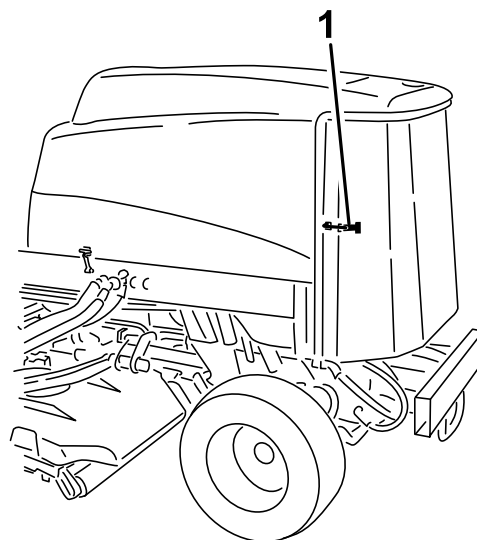

Figure 78
3. Unlatch and swing open the rear screen (Figure 78).